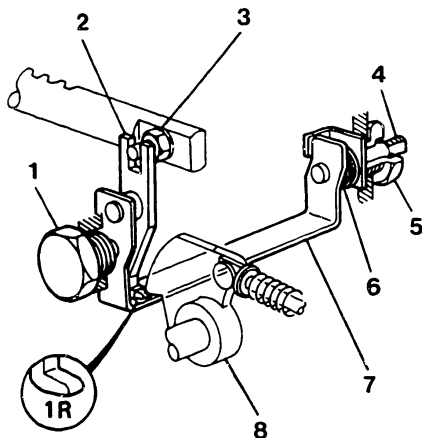

Fig. 13 Sensor lever mechanism
- 6 = Cancel spring (3)
A nut and shaft are set into the governor housing on the side opposite to the control rack. Attached to the shaft is a bushing. A U-Shaped lever attached to the sensor lever pin is mounted between the shaft fitted in the bushing and a guide screw, as shown in Fig. 13. The U-Shaped lever, the shaft in the bushing and cancel spring (3) move as one unit.